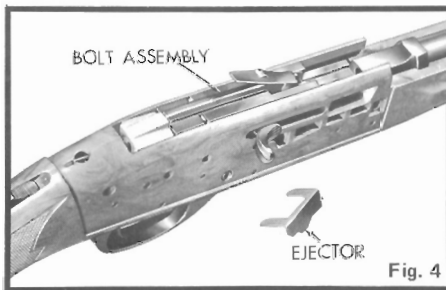

Fig. 4
**ACTION CLEANING AND CARE** (Fig. 4) — Pull back bolt assembly and hold. Scrape shooting residue from cartridge feed guide. Also scrape residue from bolt rails in stock. Clean face of bolt assembly. The metallic action parts of the Remington NYLON 66 will perform best and remain clean longer if little or no oil is used. The nylon parts need no oil. Use oil sparingly on metallic action parts to prevent rust. Always wipe receiver cover and barrel with oiled cloth after handling. Fingers leave invisible "prints" of moisture that can rust steel parts unless removed. No special care of nylon parts is required. After exposure to wet weather, always wipe receiver cover and barrel with oil to prevent rusting. Abrupt changes in temperature cause condensation and wetness, therefore, special care to metal parts is required for rust prevention. When shooting in below freezing weather remove any excess oil and use dry graphite.